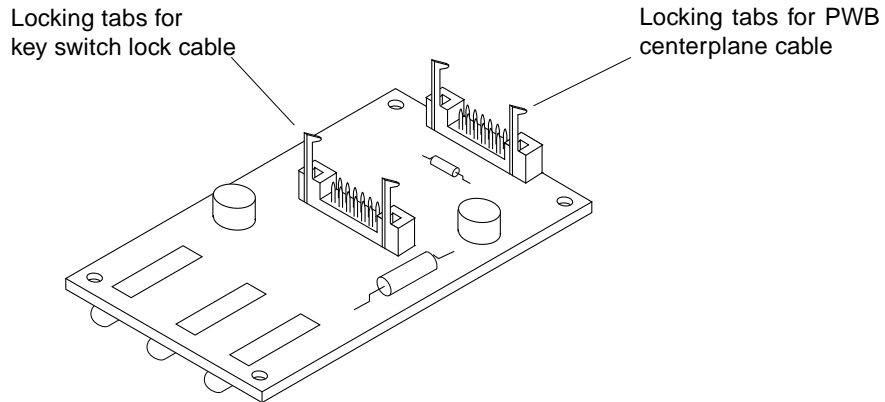

FIGURE E-9 Locking Tabs on the LED Board
The key switch PWB centerplane cable is in back of the key switch lock cable assembly (FIGURE E-9).
The two locking tabs fit over the connector, securing the key switch PWB centerplane cable to the LED board (FIGURE E-9).
(FIGURE E-9).
The key switch lock cable is in front of the key switch PWB centerplane cable (FIGURE E-9).
2. Disconnect the key switch lock and PWB centerplane cables from the LED board (FIGURE E-9).
6. Connect the key switch lock and PWB centerplane cables to the LED board (FIGURE E-9).